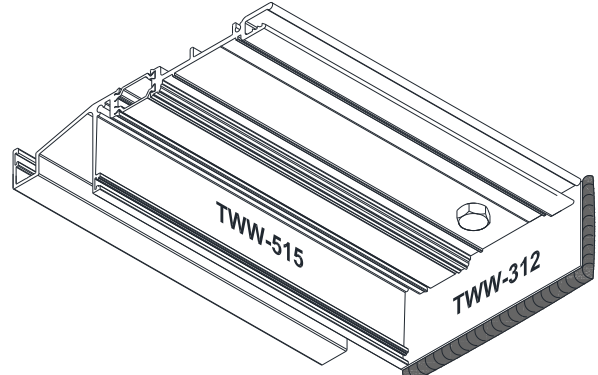

Figure 66: Head Receptor Sealing at End Dam
- 18.3 Wedge shims tightly between End Dams and jamb substrate at each end prior to installing frame panels. These shims prevent the End Dams from being dislodged while frame panels are being installed. Completely seal End Dams as shown in *Figure 66*.